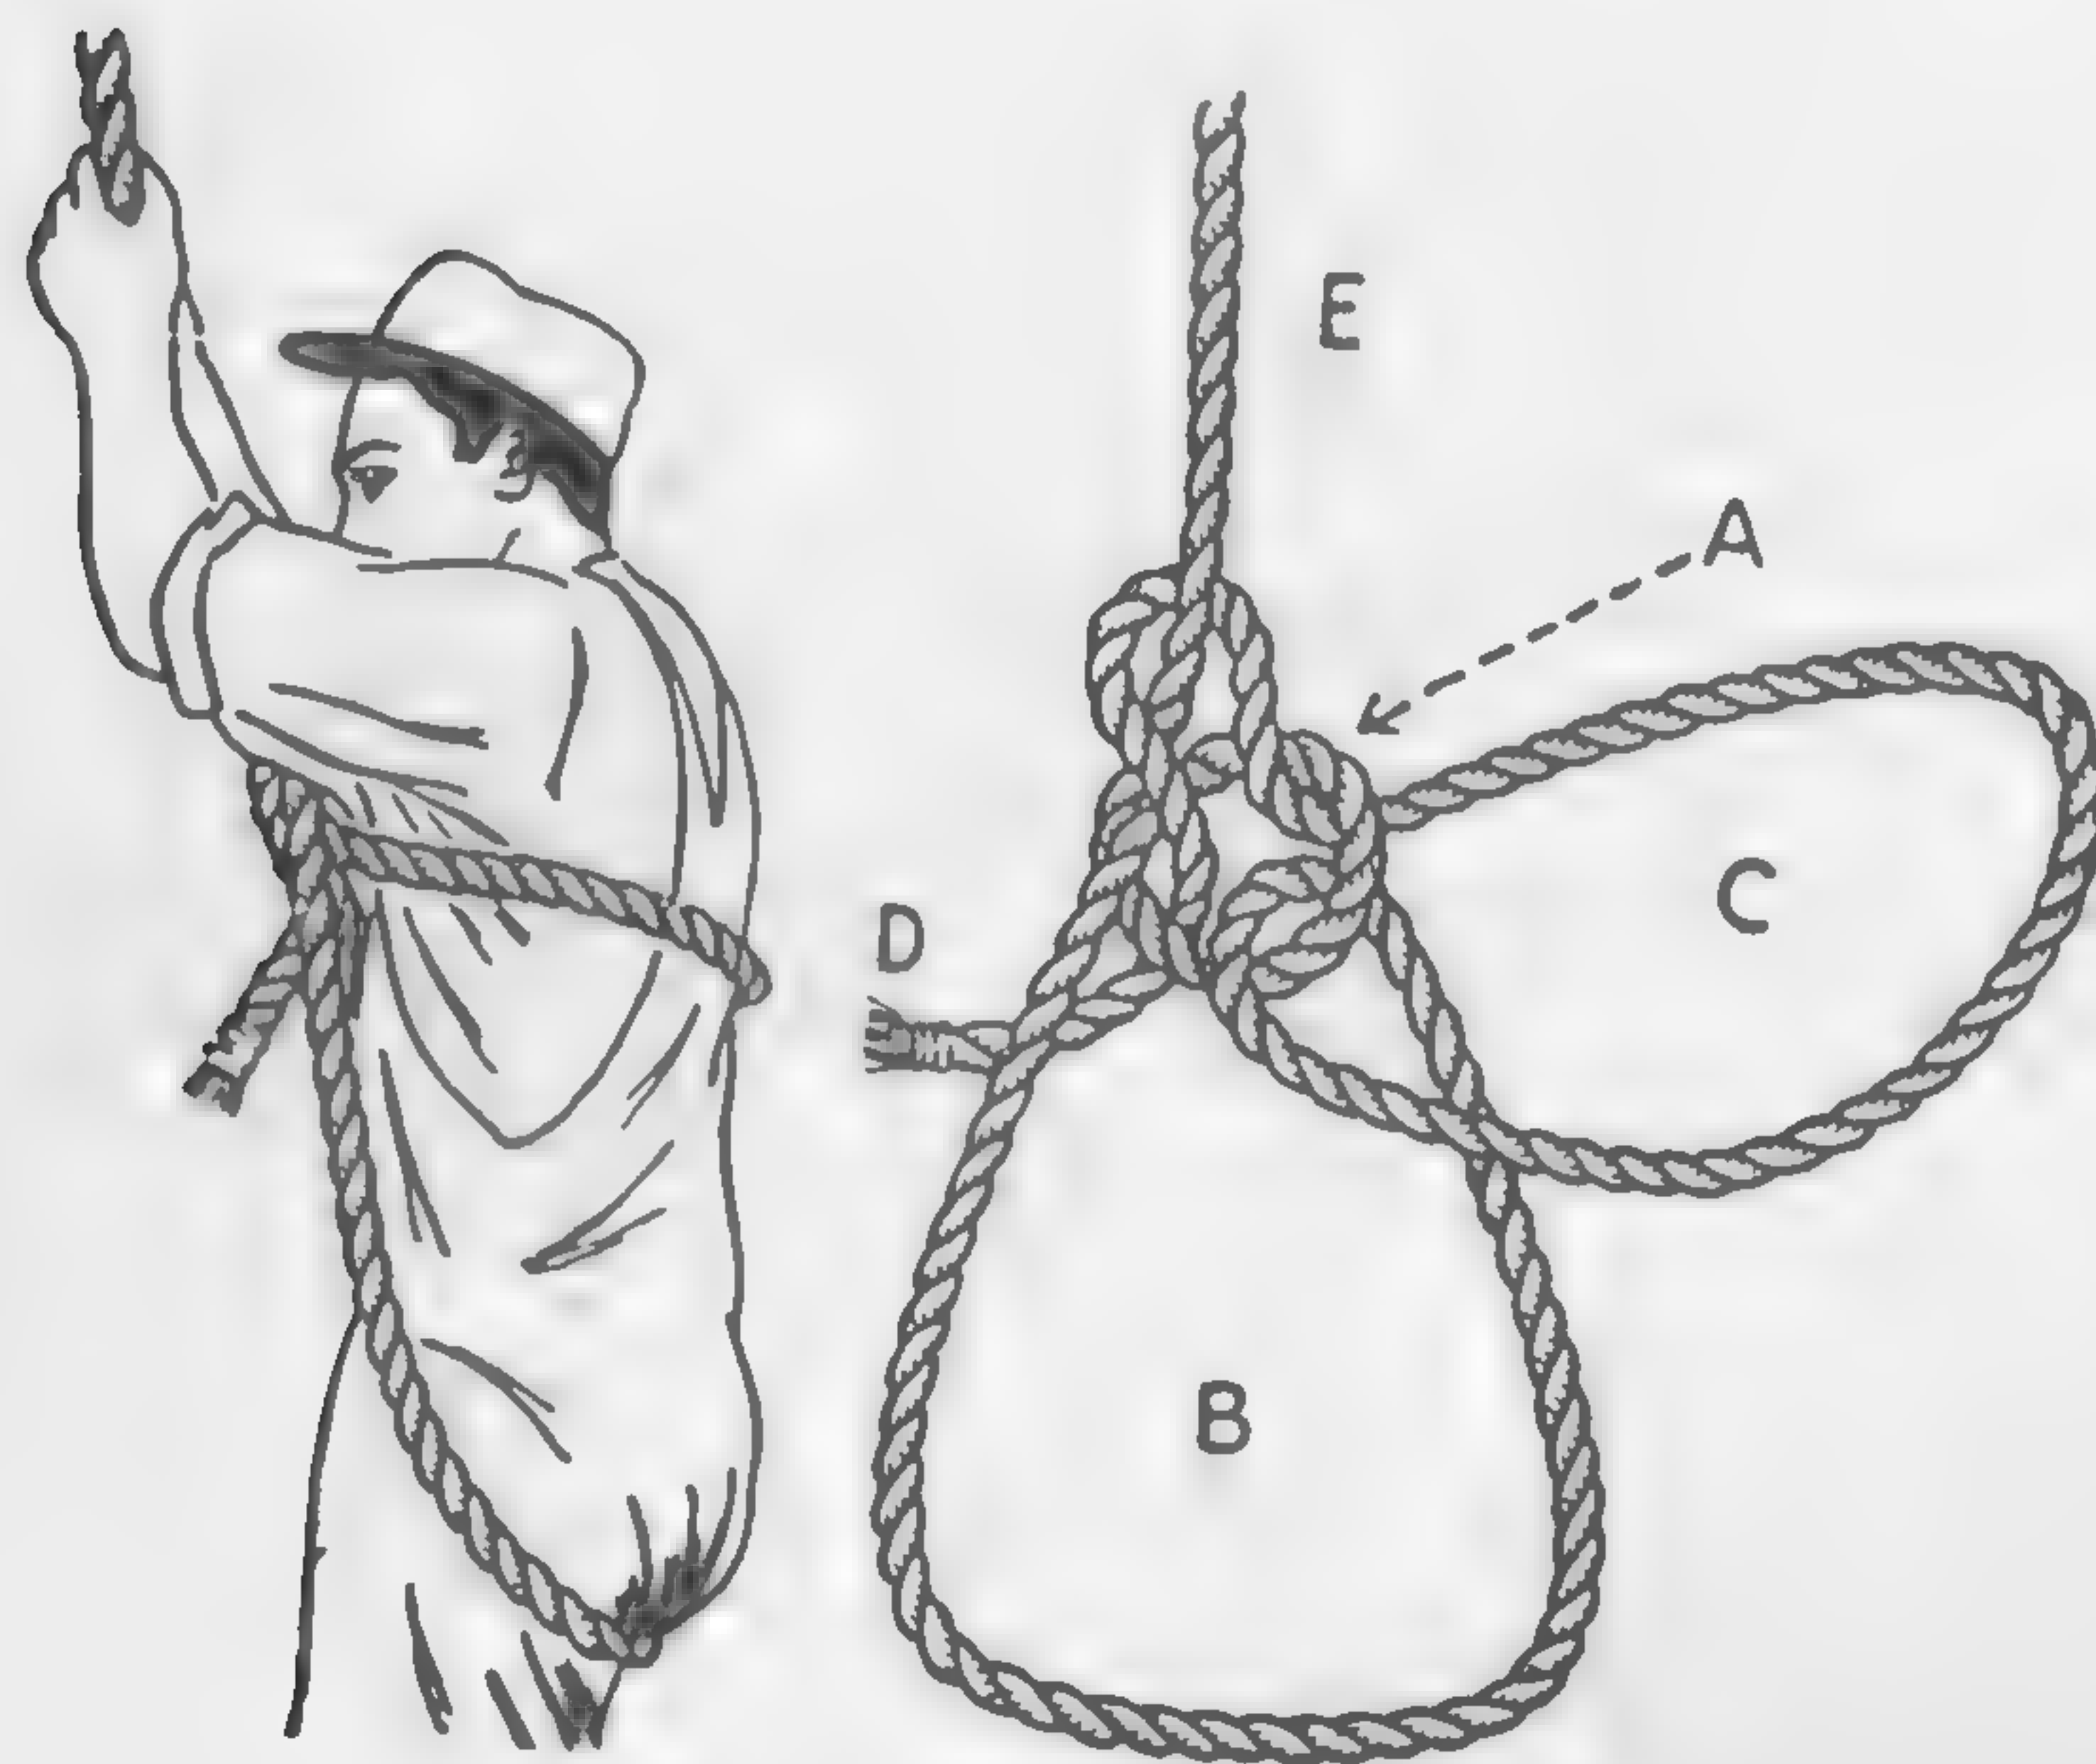

Fig. 49
It is formed as a regular bowline (Fig. 13) except that end D instead of going about the standing part (E) at once, is given a round turn about the bight of the gooseneck (A) and the knot is finished off as before (Fig. 49).